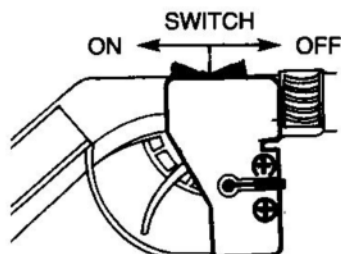
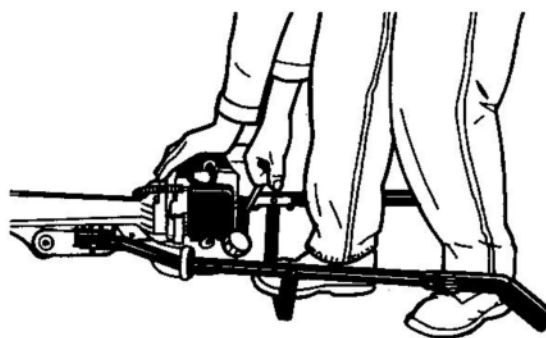

FIG 10
FIG 14
1. Place lawn edger on ground in horizontal position (see Fig. 14). Be sure the ignition switch is "ON". (FIG.10)
5. Make sure you have a firm footing. Hold down motor with left hand and put one foot on the cross brace. With right hand pull the starter grip slowly until you feel it engage - and then give it a fast pull (Fig. 14).
! WARNING The blade will rotate when engine is idling fast, e.g. on starting (1/2 throttle lock) or when engine is cold. TO STOP ENGINE slide ignition switch forward into the "STOP" position (Fig. 10).